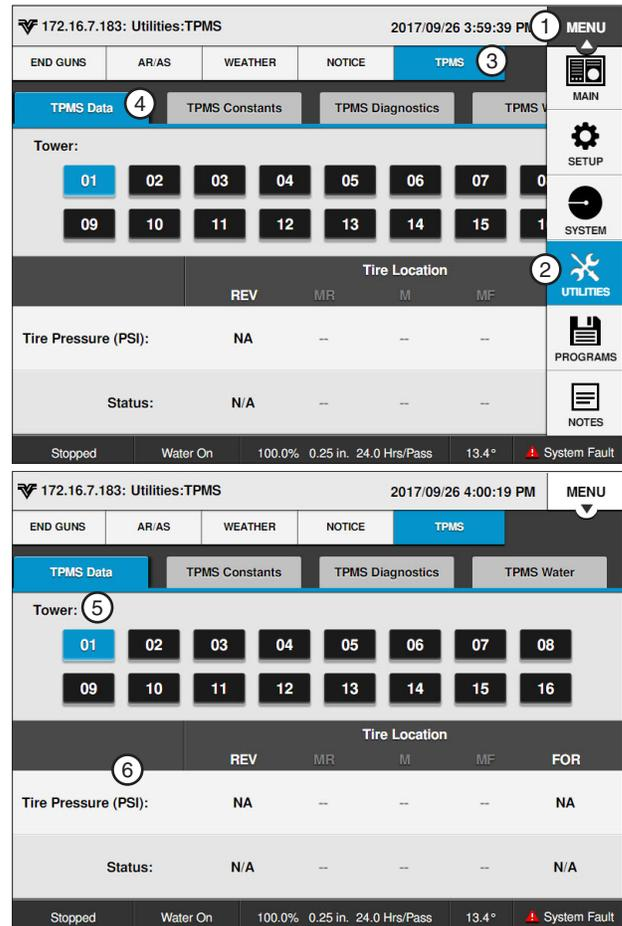

Figure 81-1 1. Menu 4. TPMS Data
Push **Menu**, **Utilities** and **TPMS** to display the TPMS menu. Refer to Figure 81-1.
1. Push **Menu**, **Utilities**, **TPMS** and **TPMS Data** for the Tire Pressure Data screen. Refer to Figure 81-1.